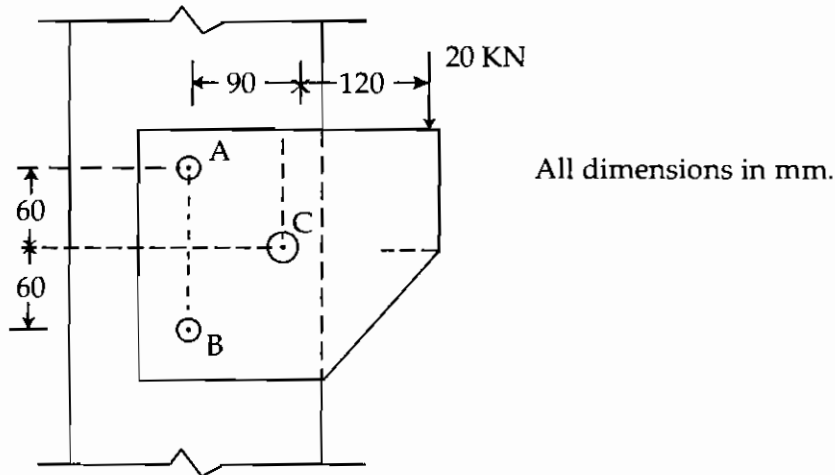

Figure 8 [Q. No. 5 (A)]
5. (A) Calculate the shearing stress in the rivets B and C for the connection shown in Figure 8. Rivets A and B are 14 mm in diameter, while rivet C has a diameter of 22 mm. 10